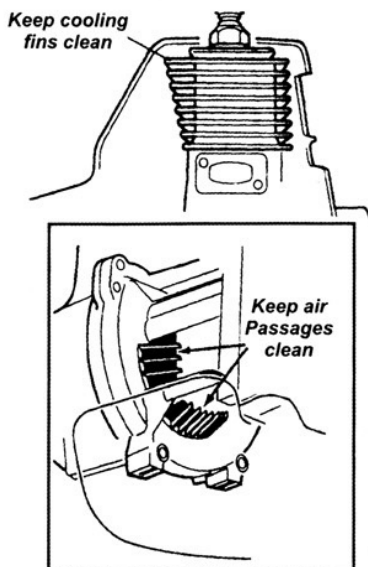

Figure 33
- Remove all dirt and debris from the engine, check the cooling fins and air cleaner for clogging, and clean as necessary. See Figure 33.